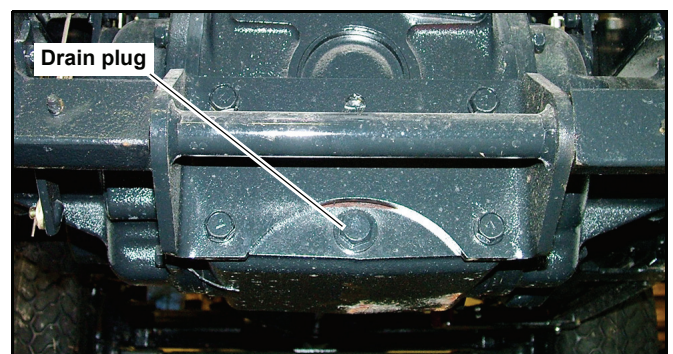

Figure 4-23
1. With the oil at normal operating temperature, drain and discard the oil by removing the transmission drain plug. Reinstall the plug after the oil has drained. Figure 4-23